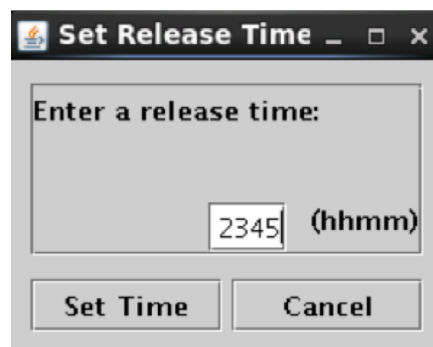

Figure 161. Enter the verbally coordinated release time into STBO Client.
**Step 3:** Type the verbally coordinated release time into the Set Release Time window (Figure 161).